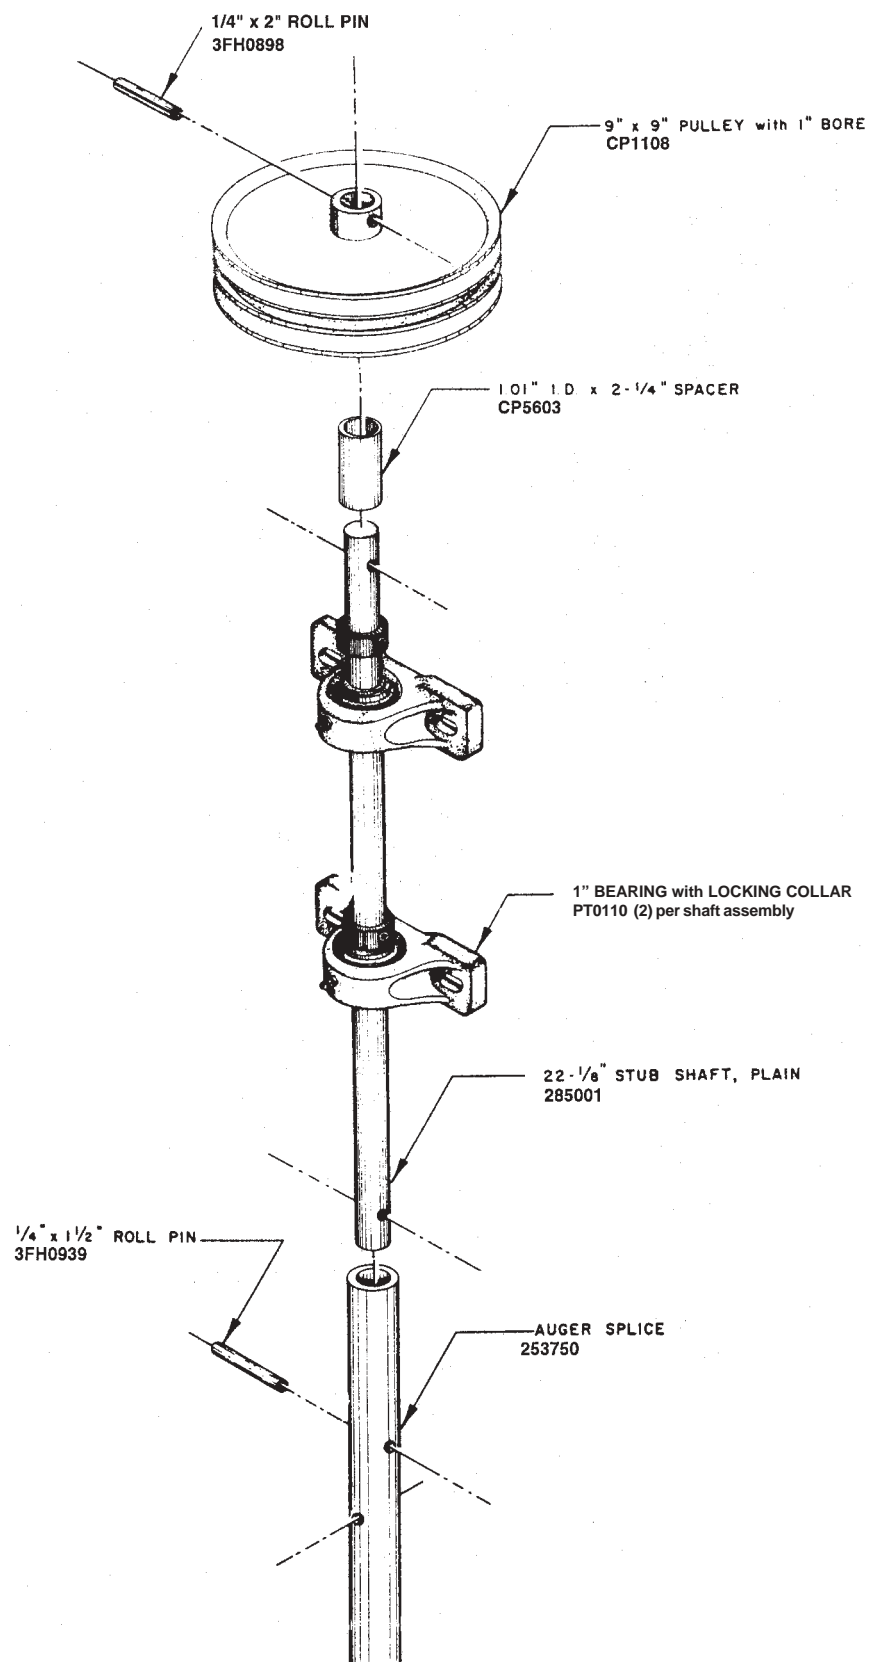

Figure 4-1 Stub Auger Assembly No. 1 (280001)
5. The No. 1 Stub Auger Assembly (see Figure 4-1) is the standard double 9" pulley assembly. It is used on all units of 5 augers or more and is placed between the two Motor Pulley Augers and the outside Sensing Device Augers.